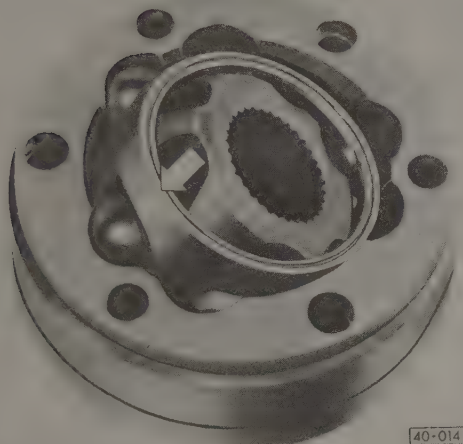

Fig. 5-20. Balls being engaged in grooves of outer housing. Apply only hand pressure at point indicated by arrow.
6. When the alignment is correct, press on the cage as indicated in Fig. 5-20 until it swings into place.